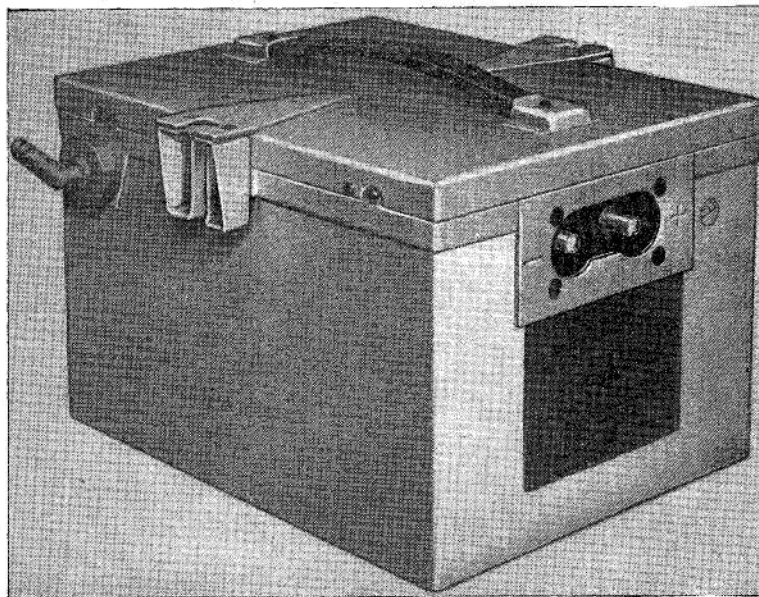

Fig. 1. General view of battery
2. The battery (fig. 1 and 2) comprises 19 cells, and has a nominal on-load voltage (at the 1-hour rate) of 22.8 volts. It is important that it should not be discharged to a terminal on-load voltage of less than 19 volts, since discharging below this level may lead to excessive gassing of component cells, which is to be avoided.